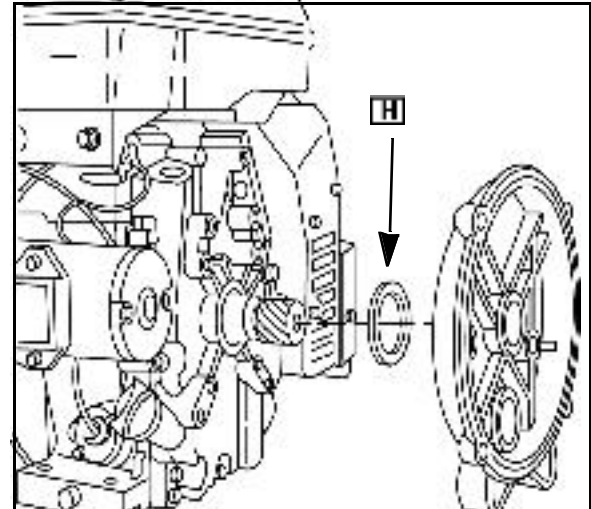

Fig. 25
8. Replace crankshaft oil seal and cork gasket ([H] Fig. 25).